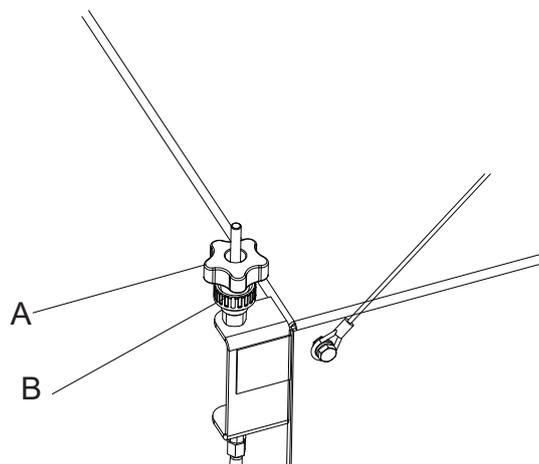

Figure2
2) Turn the ignition key (71) to "0".
4) Loosen the knob (A, Fig. 2) on the left side of the machine.
5) Turn the knob (B, Fig. 2) and remind that: